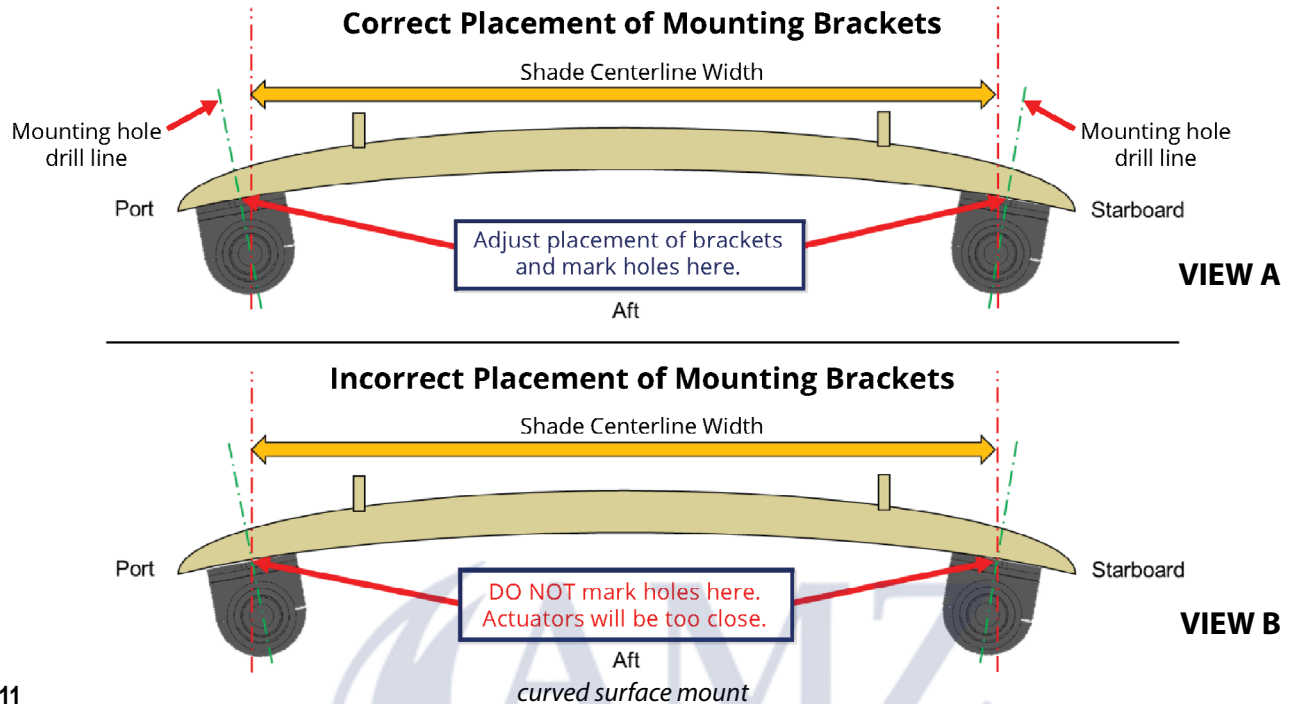

Fig.11
- B. To determine mounting hole location for an underside surface mount on a hardtop with curvature, see Fig.11. The mounting holes will ultimately be drilled wider than the shade centerline.